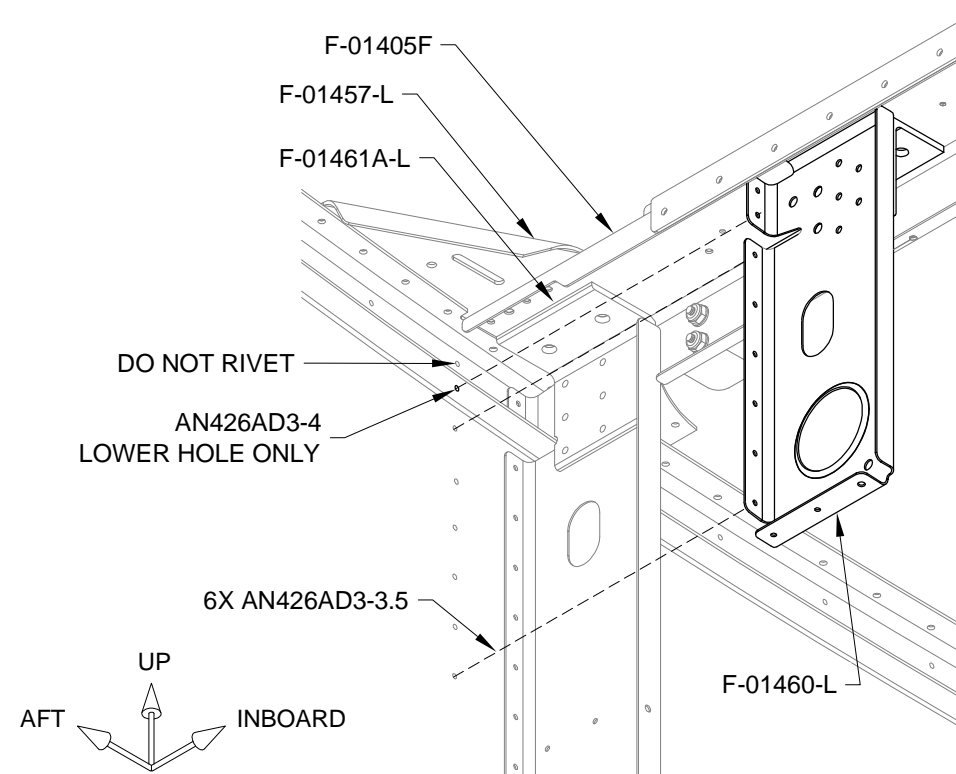

FIGURE 4: INTERCOSTAL INSTALLATION
Step 8: Remove the temporary bolts and slide the F-01460-L & -R Intercostals outboard under the F-01405F Brace and F-01461A-L & -R Roll Bar Angles as shown in Figure 4.
Step 9: Cleco and rivet the F-01460-L & -R Intercostals to the Upper Longeron Assemblies and side skins as shown in Figure 4.